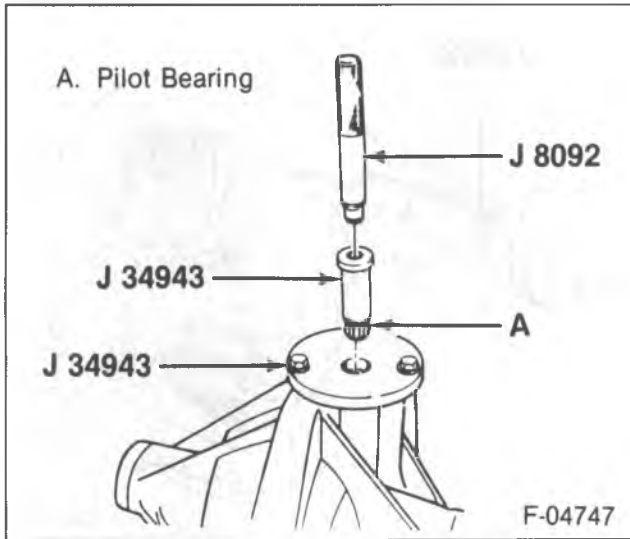

Figure 13—Installing the Pilot Bearing
- Pinion pilot bearing (15) using J 34943 and J 8092 (figure 13).
- Place the bearing (15) onto the guide.
- Measure the pinion bearing shims (11). If a new pinion and ring gear set is installed, the pinion bearing shim pack must be adjusted.